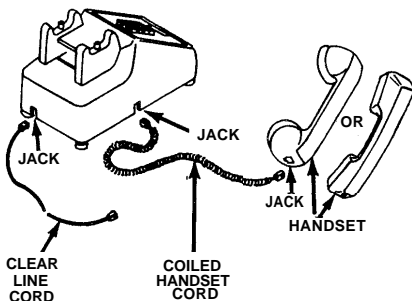

Figure 2. Desk Telephone Installation
1. Plug one end of the coiled handset cord into the opening in the handset. Push the plug in until it clicks. (Figure 2)